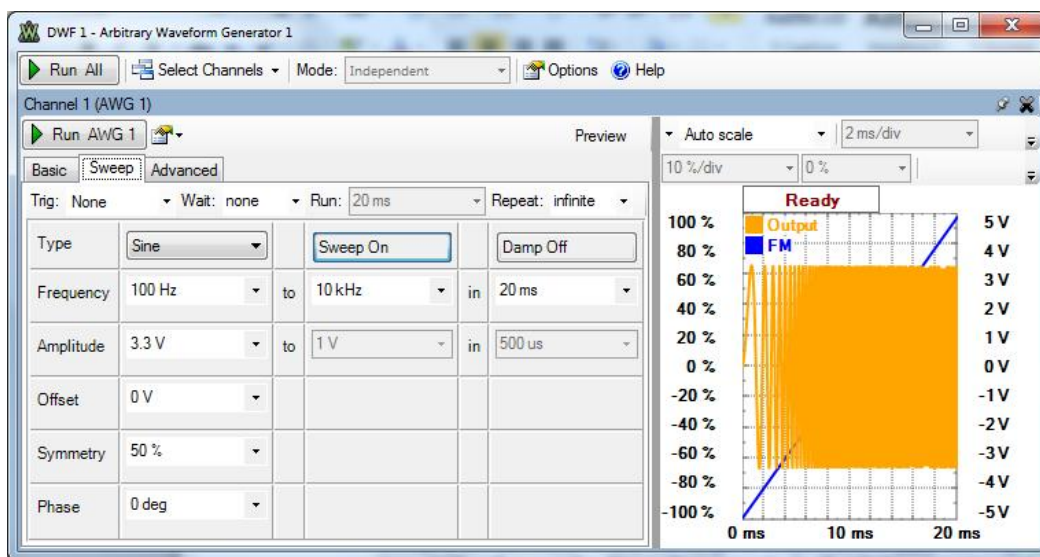

Figure B1. Example arbitrary waveform generator window.
- The sinusoidal sweep we will apply is displayed in the plot window. The sinusoidal sweep we will apply is displayed in the plot window. Since our sweep changes frequency rapidly, the plot will not provide much detail as to the actual wave shape. If desired, you can adjust the plot parameters to get a better feeling as to the actual shape of the waveform. The **Arbitrary Waveform Generator** window, with the plot parameters chosen above, is shown in Figure B1; your window should look.